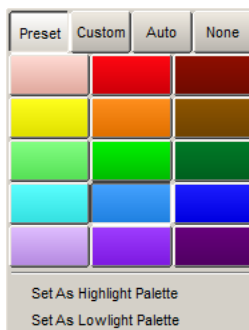

Figure 13.13. The Preset Colour Options
2. Click on one of the 15 options shown in *Figure 13.13*, “*The Preset Colour Options*” to assign the directory item this colour.